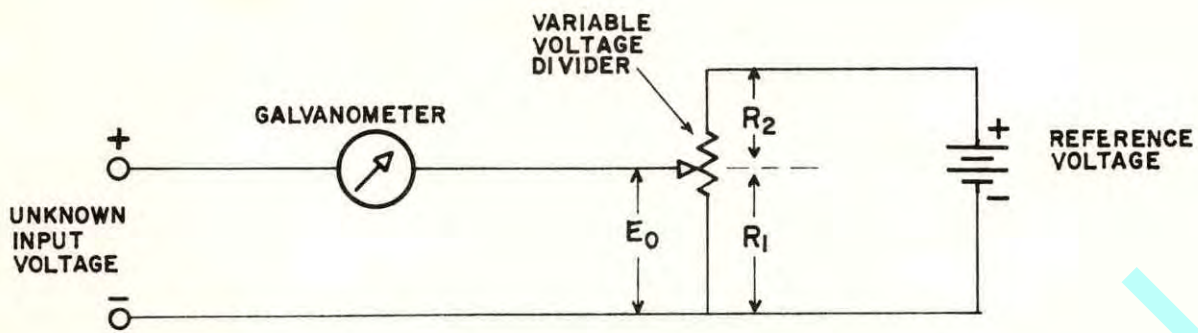

FIGURE 4-1. BASIC POTENTIOMETER CIRCUIT
1. THE POTENTIOMETER PRINCIPLE: Consider the basic potentiometer circuit shown schematically in Figure 4-1. If an unknown voltage is applied, and the variable voltage divider adjusted until the voltage E_0 is equal in magnitude to the unknown voltage, then zero current will flow through the galvanometer. This condition is called "balance," and no current is drawn from the input under the condition of exact balance. The unknown voltage can be computed from the formula: